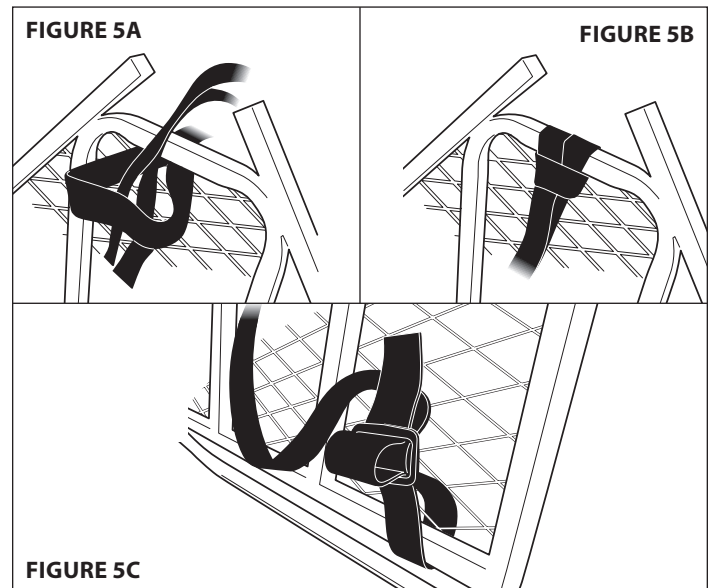

FIGURE 5C
3. If included, attach backpacking straps (48067) at desired location on platform. Fold strap in half. Feed folded strap through platform mesh. Feed the two loose ends of strap through folded loop and pull tight forming a cinch knot. **SEE FIGURES 5A AND 5B.** Feed straps through platform mesh and secure with provided tri-slide buckles. **SEE FIGURES 5C**